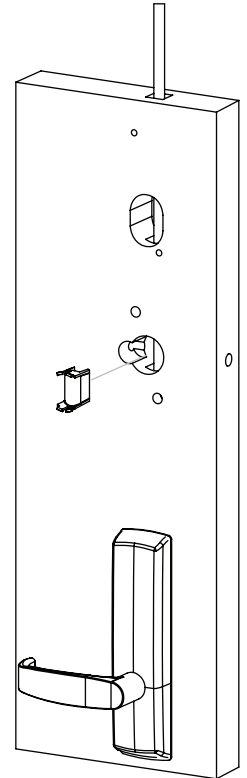

Figure 7-6B
2. Install plastic wire guide through reader prep from outside door surface before proceeding to Section 11. (Figure 7-6B)